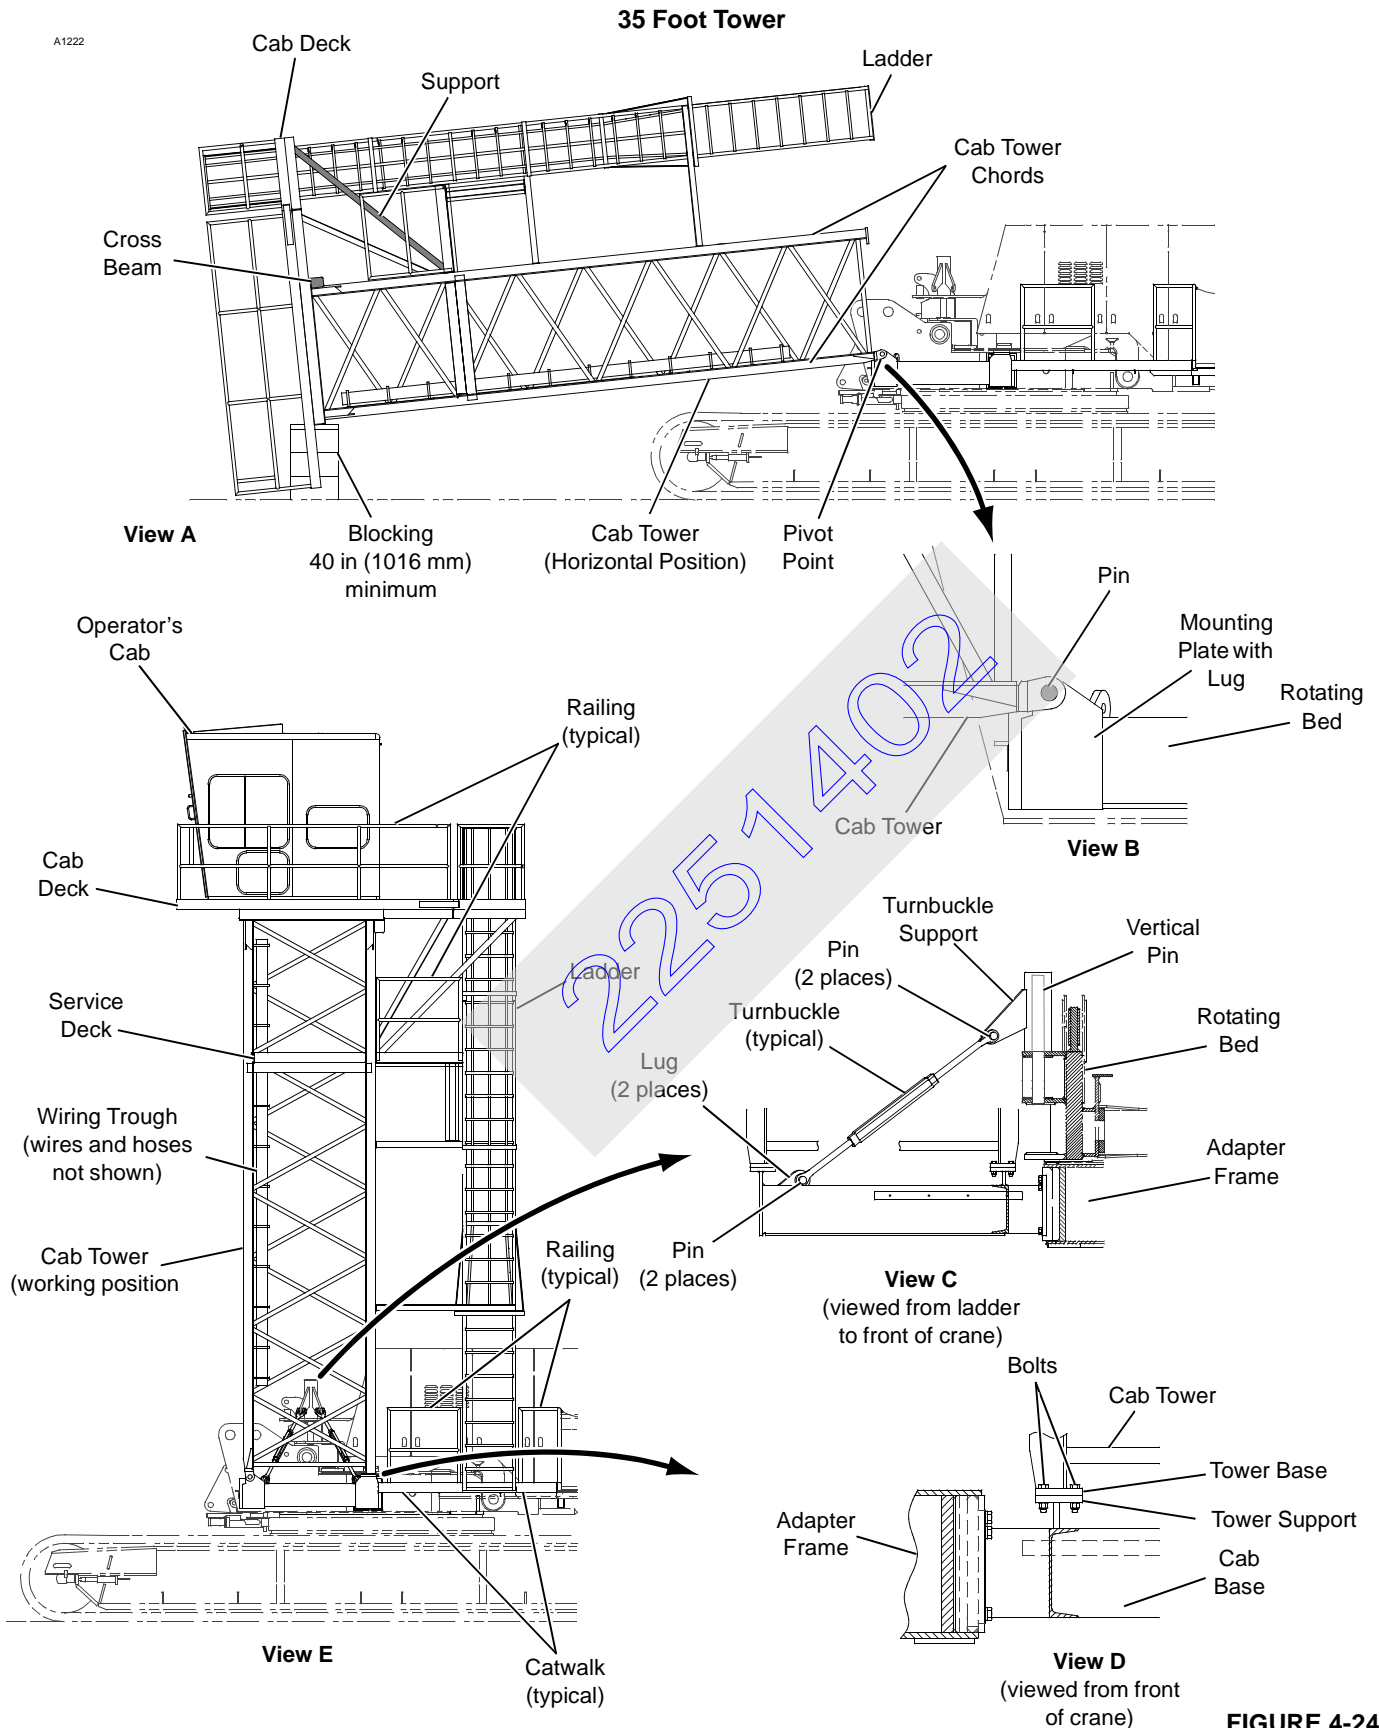

FIGURE 4-24
See Figure 4-24 for following procedure.
5. Using slings and shackles attached to cross beam (Figure 4-24, View A), support tower in working position. **Do not lift tower.**
6. Remove tower turnbuckles (Figure 4-24, View C):
7. Remove bolts holding tower to mounting plate (Figure 4-24, View D).
8. Slowly lower tower from working position to horizontal position, allowing it to pivot forward on pins. Allow cab deck to rest on ground or blocking (Figure 4-24, View A).
11. Remove pins from tower base (Figure 4-24, View B).